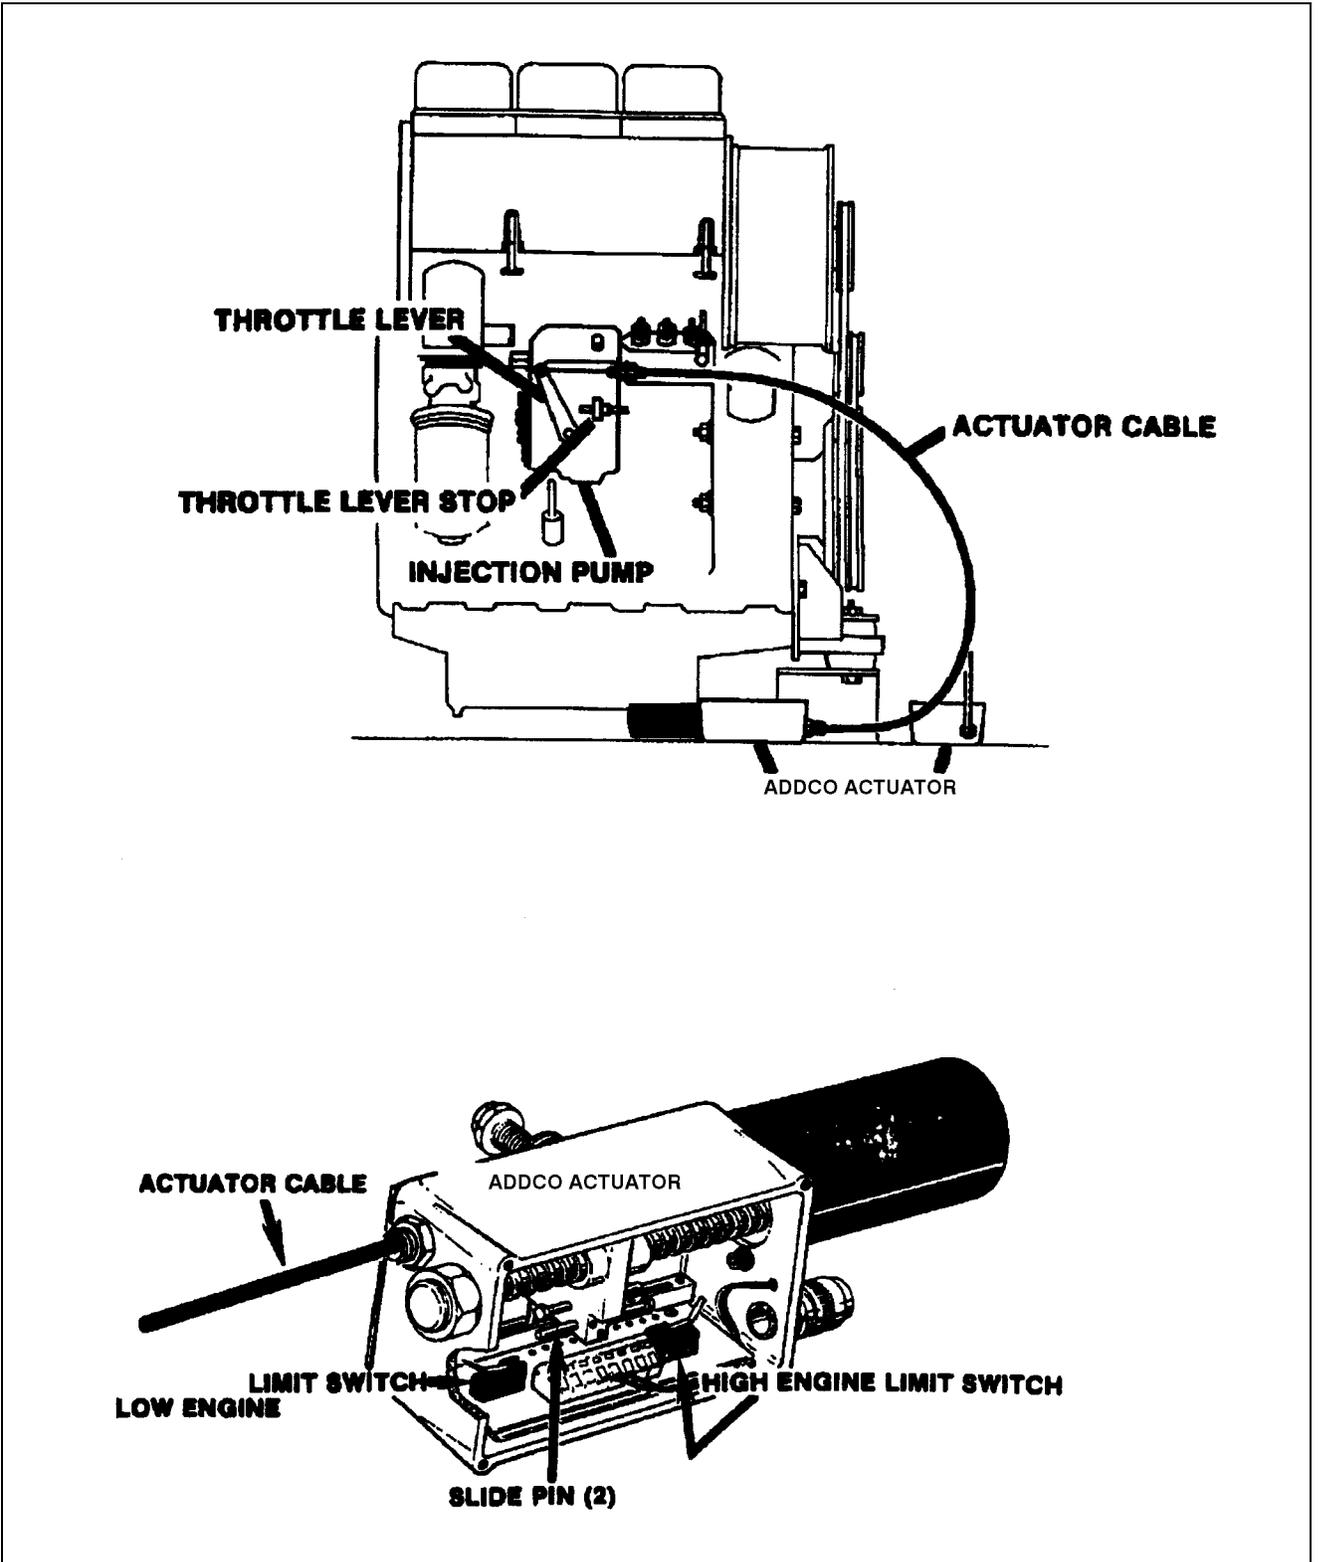

Figure 2-11. Addco Actuator Adjustments, F3L1011.
2.20 THROTTLE CHECKS AND ADJUSTMENTS - DEUTZ ENGINE F3L1011. (SEE FIGURE 2-11.)